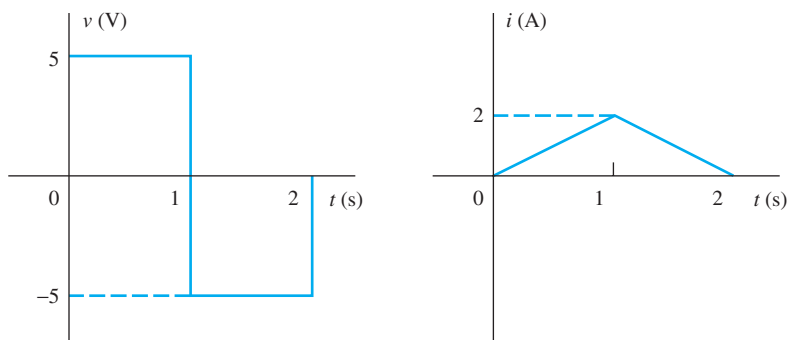
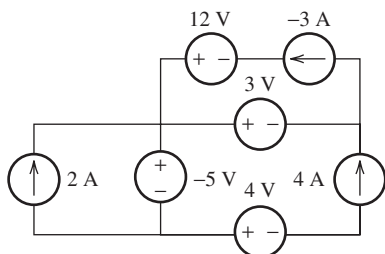

FIGURE P2.57 Voltage and current waveforms.
FIGURE P2.58 Circuit for Problem 2.58.
2.51 (A) Find the value of the resistance, R , in Figure P2.51.**FIGURE P2.51** Circuit for Problem 2.51.**2.52** (A)* Find the power, P , dissipated by the $20\text{-}\Omega$ resistor in Figure P2.52.**FIGURE P2.52** Circuit for Problem 2.52.**2.53** (H) Find the power P_1 , P_2 , and P_3 dissipated by all resistors in the circuit shown in Figure P2.53.**FIGURE P2.53** Circuit for Problem 2.53.**2.54** (H) Find v in the circuit shown in Figure P2.54.**FIGURE P2.54** Circuit for Problem 2.54.**2.55** (H) Find the power dissipated in all the resistors of Figure P2.54.**2.56** (A) Show that the power absorbed in each resistor is a non-negative number.**2.57** (H) The voltage and the current across an electrical device are shown in Figure P2.57. The voltage and the current are associated in their direction. Draw the waveform of the power absorbed by the device and compute the energy consumed during the time interval $[0, 2]$.**2.58** (A)* For the circuit shown in Figure P2.58: